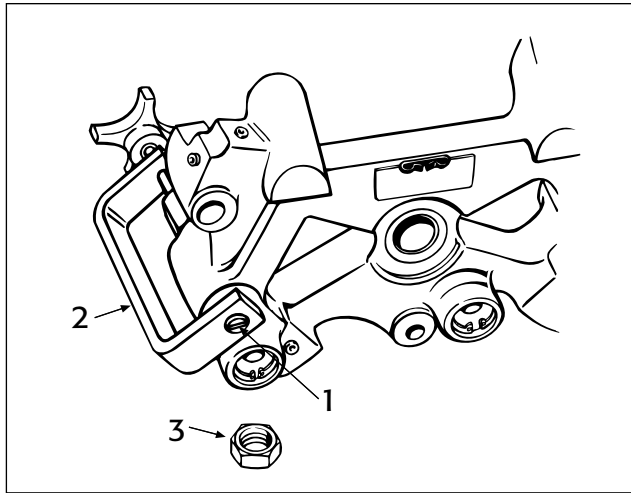

FIG. 29
1. Remove the locknut (3) on the slave piston adjusting screw (1). Back out the adjusting screw until the slave piston is fully retracted (screw is loose).
2. Place the hole in the clamp fixture (2) over the slave piston adjusting screw (see Fig. 29).